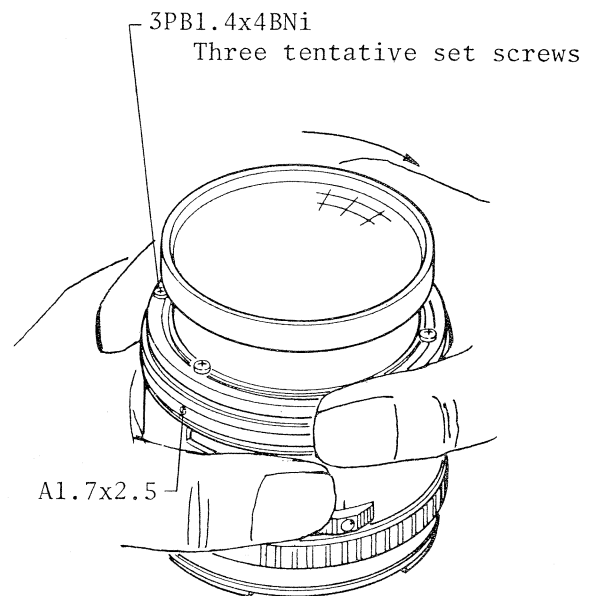

Fig.14
- 5) Turn helicoid counter clockwise until it stops. Screw down three 3PB1.4x5BNi screws into the tapping holes of attaching filter ring as shown in Fig. 14. inner and middle helicoid should be fixed.
- 7) Loosen three AS1.7x2.5 screws as shown in Fig. 14 and set it on the SLS-4 1.f.b. stand. Adjust its infinity by auto-collimator.